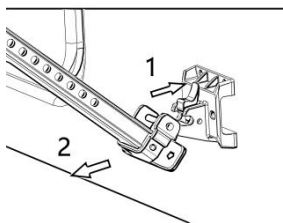

Figure D9
a. Release the tab on the bottom installation bracket, swing the support rod outward and place vertically on the ground . (Figure D9)